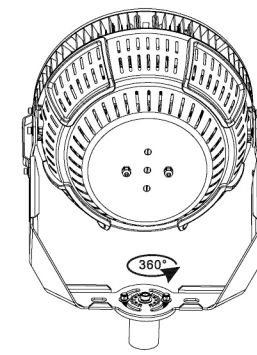

Figure 8
2. According to the need to adjust the lighting direction, can be 360 degrees rotation adjustment, tightened with screws when the adjustment is completed (Figure 8);